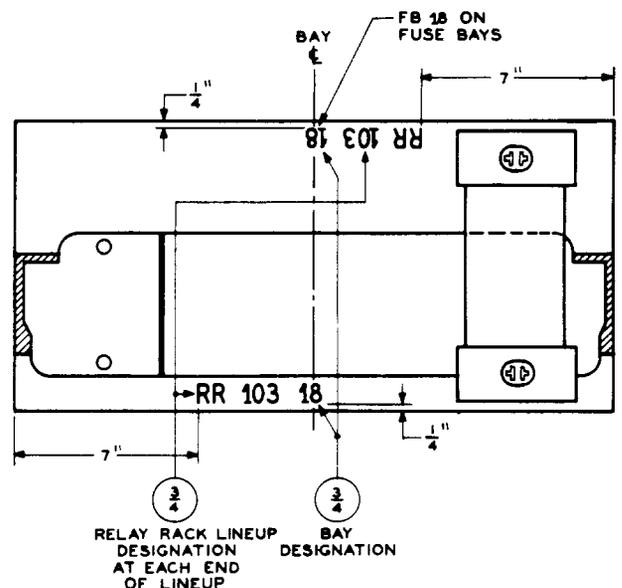

Fig. 34 – Bay and Relay Rack Line-up Designations for Bulb-angle Relay Rack Bays
2.49 The bay designation shall be centered on the top surface of the frame base, both front and rear, as shown in Fig. 34.
2.50 When relay rack line-up numbers (RR 103) are used, stamp in line with the bay designation at each end of each relay rack line-up, on both front and rear, as shown in Fig. 34.
2.59 *On bays with a sheet metal base*, the bay designation shall be centered on the top surface of the frame base, front and rear, as shown in Fig. 34. However, when other bays in